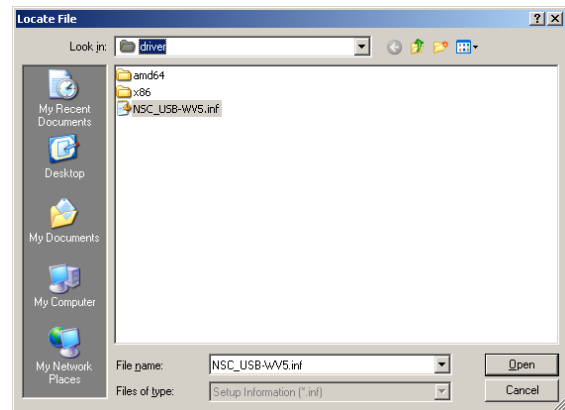

Figure 13: Select .inf file in \driver folder
- Browse to the \driver folder in the WaveVision 5 installation directory and select the .inf file in the \driver folder as shown in Figure 13. Continue with the installation of this driver.